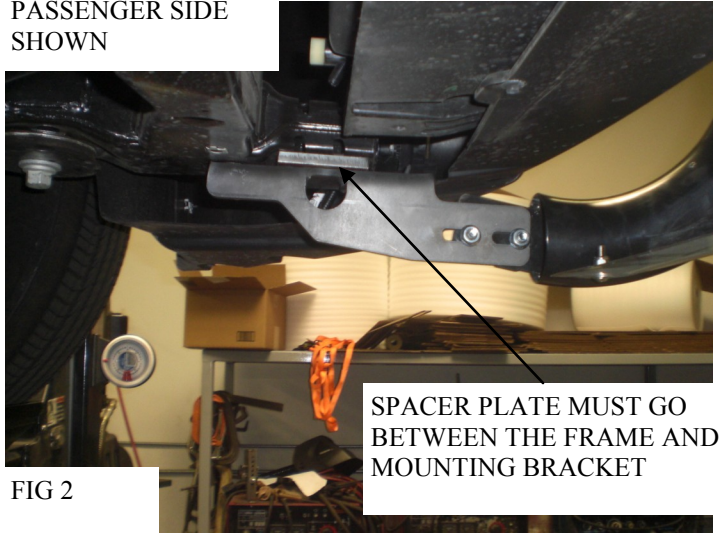

FIG 2
3. Take (1) 3/8 bolt plate/nut plate and place it in the most rearward hole of the frame FIG 1, take (1) spacer plate and place it between the frame and the front mounting location of the mounting bracket FIG 2. Attach the mounting bracket to the front mounting location using (1) 3/8 hex head bolt, (1) 3/8 lock washer, and (1) 3/8 flat washer. Attach the mounting bracket to the rear mounting location using (1) 3/8 flat washer, (1) 3/8 lock washer, and (1) 3/8 hex nut FIG 3. Do not fully tighten at this time. Repeat step for passenger side.